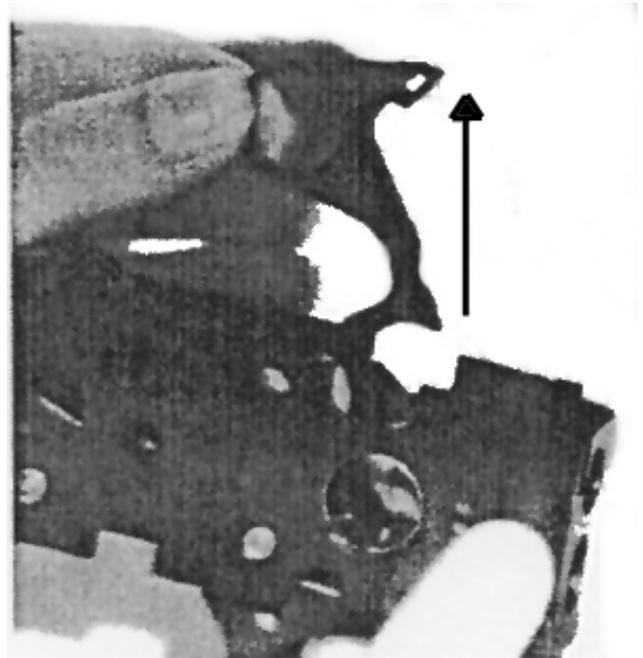

Figure 16
- The *shifter rod* is located on the inside of the housing and to the right. There is a large hole in which the *hammer* seats. Lift the *shifter rod* straight up and remove through the top of the housing. (Fig. 16)